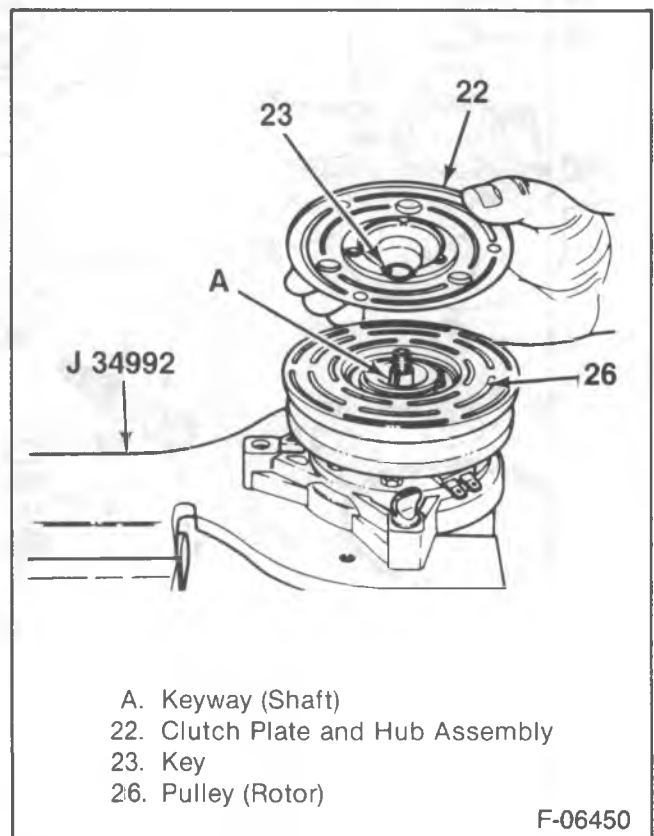

Figure 6—Removing the Clutch Plate and Hub and Shaft Key
- Shaft key (23).
- Allow the shaft key (23) to extend 3.2 mm (1/8-inch) out of the bottom of the hub keyway (figure 6).
- The shaft key (23) is curved slightly to give an interference fit in the groove.